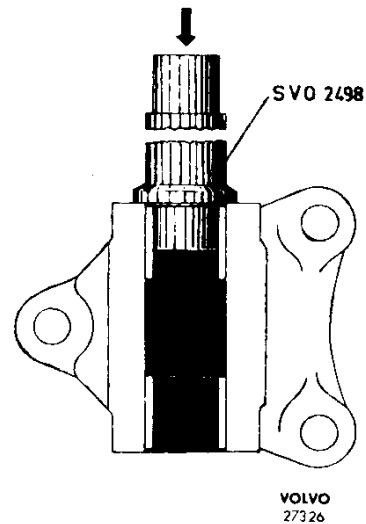

Fig. 39 Fitting bushes in idler arm, late production
1. Press in the new bushings 0.3—0.5 mm (0.012—0.02") inside the outer face with the help of drift SVO 2498, see Fig. 39. Ream the bushes with reamer SVO 4153. Clean the bracket and check the fit of the pin in the bushes. The pin should move easily but without any noticeable play.